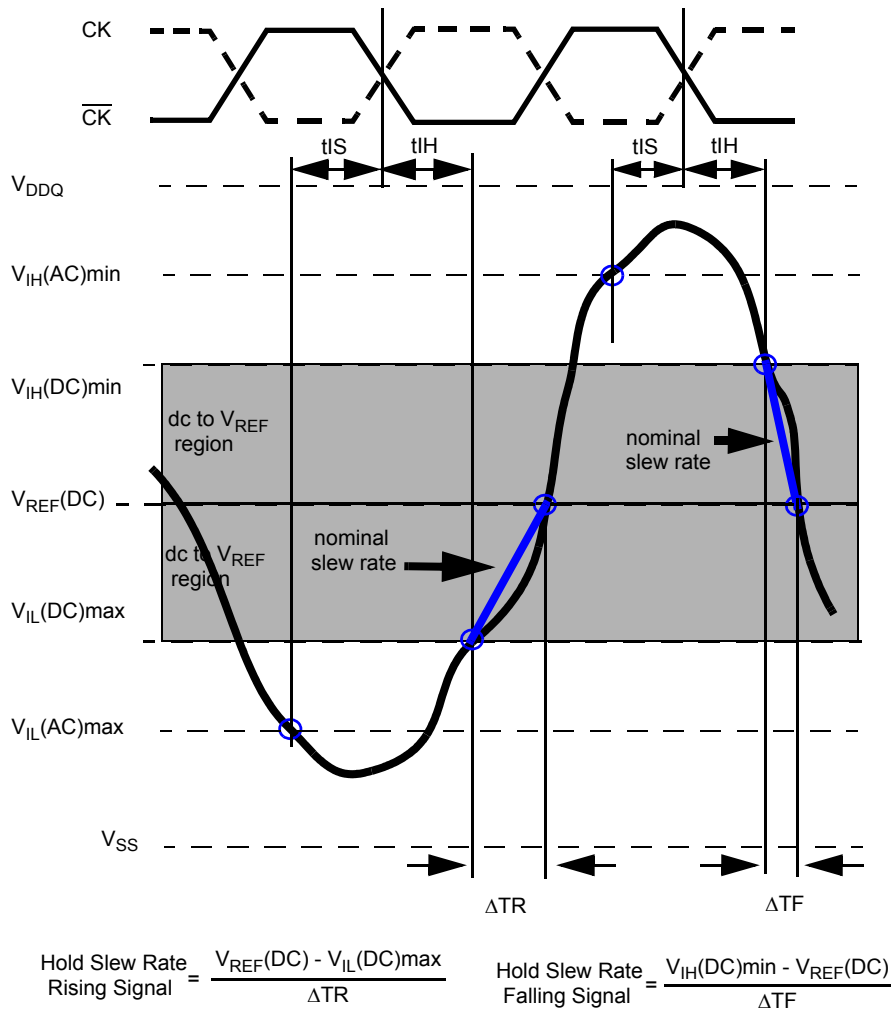

Figure 17. Illustration of nominal slew rate for tIH
18. tHZ and tLZ transitions occur in the same access time as valid data transitions. These parameters are referenced to a specific voltage level which specifies when the device output is no longer driving (tHZ), or begins driving (tLZ) . Figure 17 shows a method to calculate the point when device is no longer driving (tHZ), or begins driving (tLZ) by measuring the signal at two different voltages. The actual voltage measurement points are not critical as long as the calculation is consistent. tLZ(DQ) refers to tLZ of the DQS and tLZ(DQS) refers to tLZ of the (U/L/R)DQS and (U/L/R)DQS each treated as single-ended signal.
19. tRPST end point and tRPRE begin point are not referenced to a specific voltage level but specify when the device output is no longer driving (tRPST), or begins driving (tRPRE). Figure 17 shows a method to calculate these points when the device is no longer driving (tRPST), or begins driving (tRPRE) by measuring the signal at two different voltages. The actual voltage measurement points are not critical as long as the calculation is consistent.